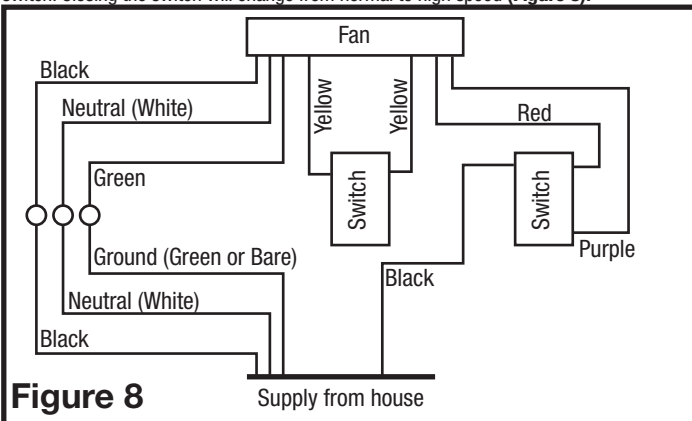

Figure 8
2. **Continuous Ventilation:** Secure the electrical wires to the housing with an approved electrical connector. For two speed fans wired for continuous ventilation, connect the White wire of the fan to the White (Neutral) wire from the power source. Connect the ground wire from the house to the green wire from the fan housing. Connect the Black wire of the fan to the Black wire (Hot) from the power source. Using a properly grounded standard duplex toggle switch (such as Leviton 5224-2W, not included) connect the Black wire from the supply to one side of the top and bottom switch. Connect the Red wire (light) from the fan housing to the other side of the top switch and connect the Purple wire (night light) from the fan housing to the other side of the bottom switch. Using a second properly grounded standard duplex toggle switch, connect the Hot Yellow wire from the fan to the input of the switch. Connect the second Yellow wire from the fan to the output side of the switch. Closing the switch will change from normal to high speed (Figure 8).